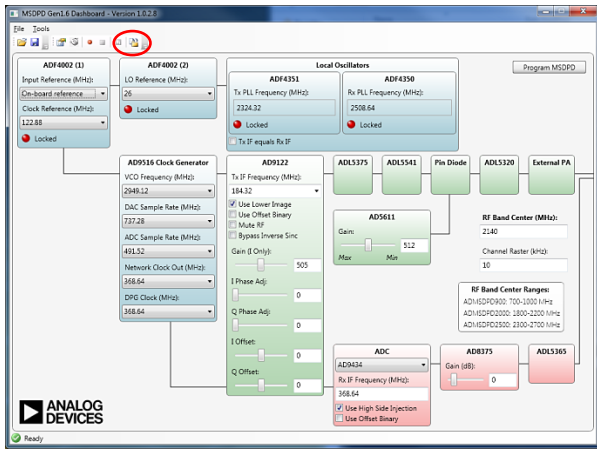

Figure 9. Save Macro As...
4. Once the macro recording has been stopped, click **Save Macro As...** to save the macro (see Figure 9). The macro can then be saved as a .mgrp (SPIController Macro Group) file.